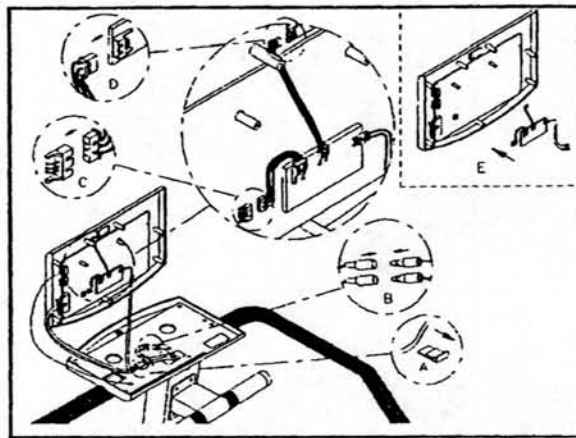

Fig.16-3
1. Replace a new ELECTRONICS PACKAGE WHICH POSSESSES THE HTR BOARD AND THE POLER RECEIVER and install in the PANEL(see fig.16-3 & enlarged figure E).
2. Plug the connectors and harnesses of RIBBON CABLE OF THE ELECTRONICS PACKAGE to the connectors inside of PANEL (see fig.16-3 & enlarged figure B, C, D).
3. Place the cable of THE ELECTRONICS PACKAGE WHICH POSSESSES THE HTR BOARD AND THE POLAR RECEIVER UNDER CABLE CLIP (see fig.16-3 & enlarged figure A).